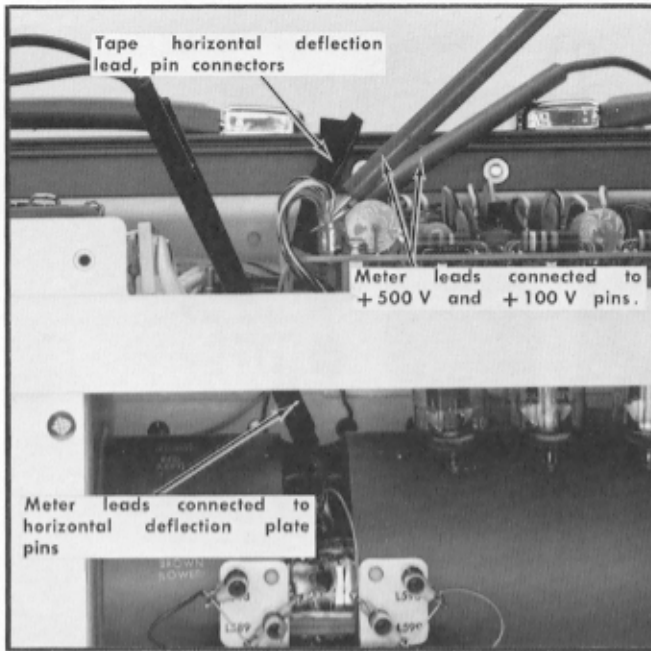

Fig. 6-47. Measuring CRT beam current.
- Connect the right horizontal deflection plate (CRT pin) through a microammeter to the 500 volt supply. The 500 V terminal on the circuit board assembly is convenient. See Fig. 6-47.